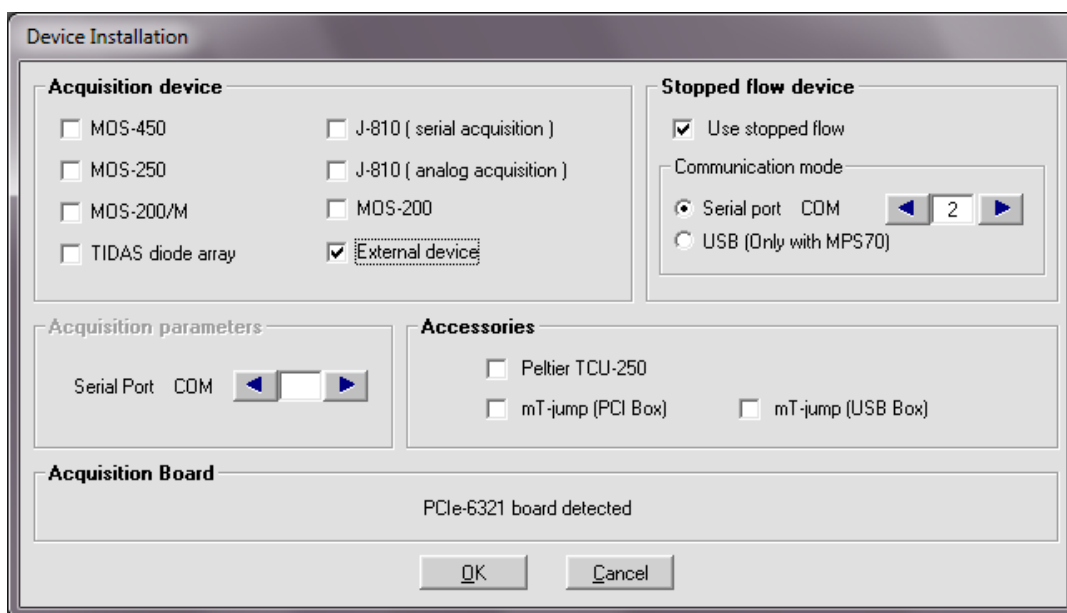

Figure 15 : Device installation
1) **From the *Install menu***: choose the **Device installation** option to load the window shown in Figure 15. The stopped-flow communication is established from this window by choosing the corresponding serial port. The acquisition device and its serial port are also selected in this window, details of each configuration will be provided in further sections.